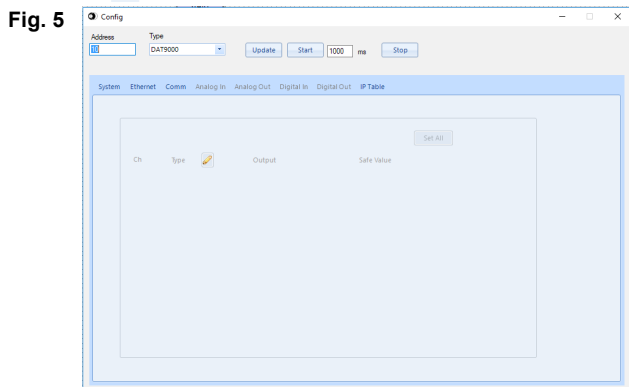

Fig. 5
2. In the menu bar, click on *Tools* → *Config*, it will appear the box in figure below (Fig. 5)